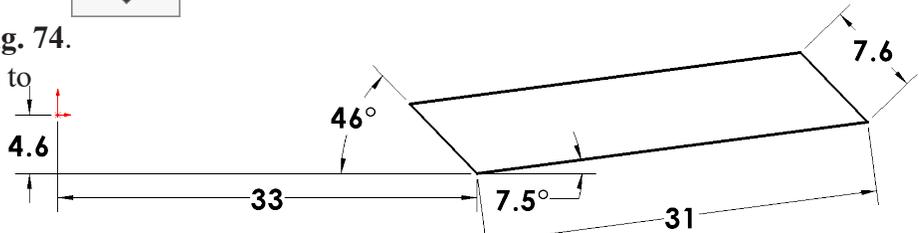

Fig. 74
Step 6. Click **Smart Dimension**  (S) on the Sketch toolbar.
Step 7. Add dimensions, **Fig. 74**.